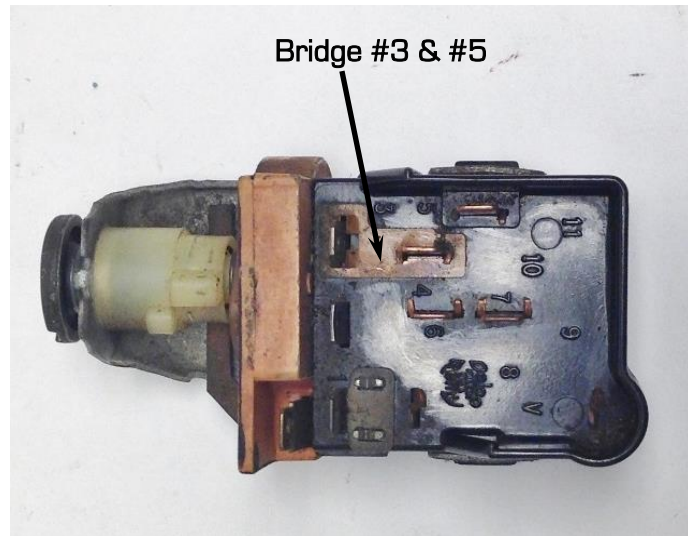

Figure 9 - Headlight Switch
**NOTE:** The 2 leads for the parking lamp (numbered 3 and 5) will need to be bridged together in order for this kit to work correctly (Figure 9). If your headlight switch does not have a bridge you will need to jump the 2 leads together.